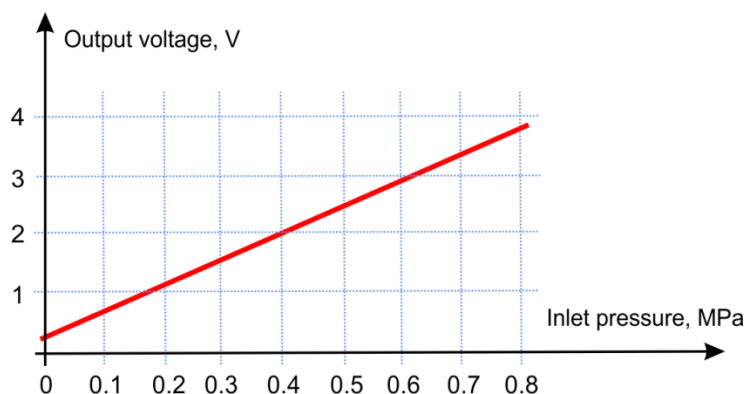

Figure 12 – Graph of GNOM DDE output voltage dependence on the sensor input pressure
2) Output signal voltage value of GNOM DDE is linearly dependent on the value of pressure of compressed air on sensor output (see figure 12).